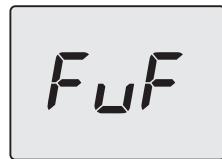

Figure 7.12
- Allow the program to perform the entire process, at the end of which **FuF** (Full Finish) will be displayed (Figure 7.12).